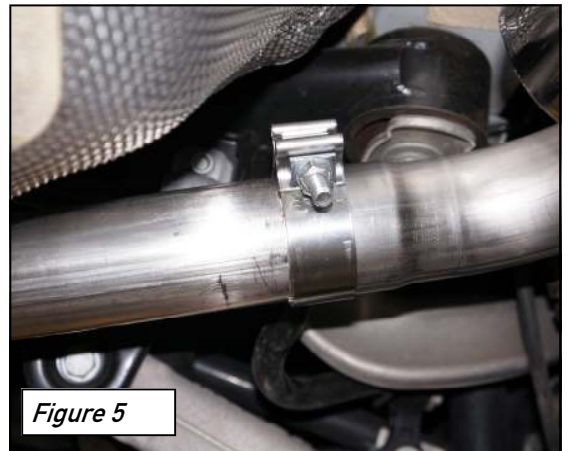

Figure 5
**Figure 5** shows the overlap between part ED and part EK. Use an impact gun to tighten down this clamp after final adjustment. Tighten to 40ftlbs.